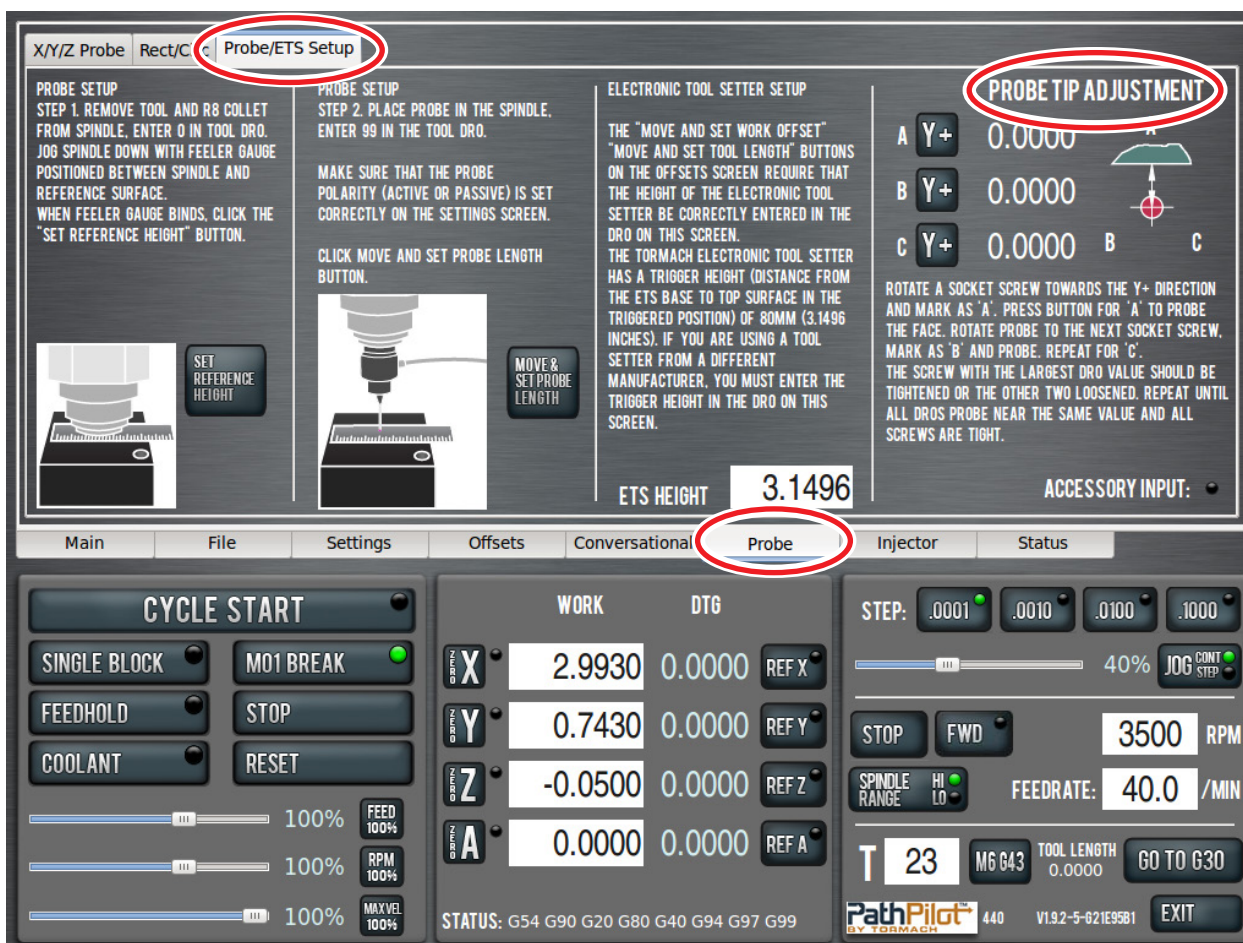

Figure 8.9
1. On the *Probe* screen, click the *Probe/ETS Setup* tab (see **Figure 8.9**).